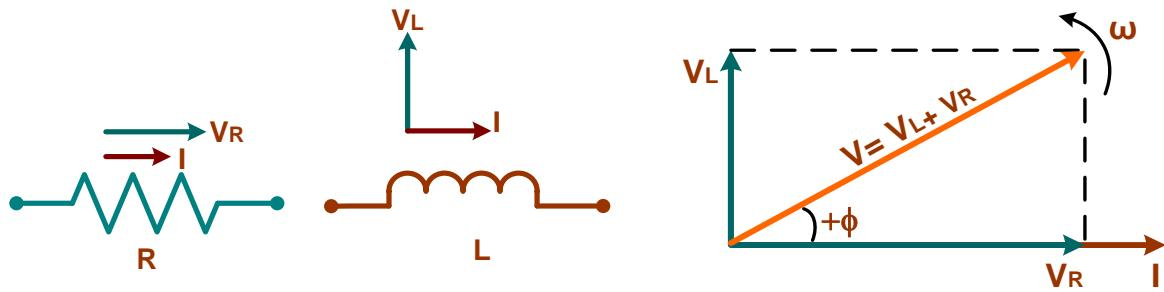

Figure 2.24 Phasor Diagram of Series R-L Circuit
- So, to draw the vector diagram, first I taken as the reference. This is shown in the Fig. 2.24. Next  $V_R$  drawn in phase with I. Next  $V_L$  is drawn  $90^\circ$  leading the I.